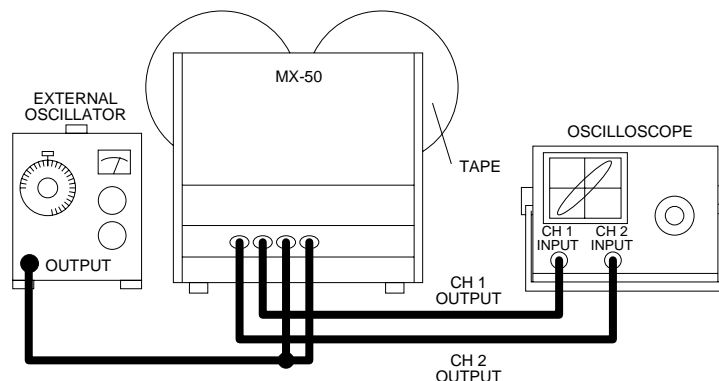

Figure 5-12
3. Connect the vertical inputs of the dual-trace oscilloscope to both OUTPUT CONNECTORS as shown in **Figure 5-12**. Place the machine into RECORD MODE. Configure the oscilloscope to display the input signals as a lissajous pattern using the X-Y display function.